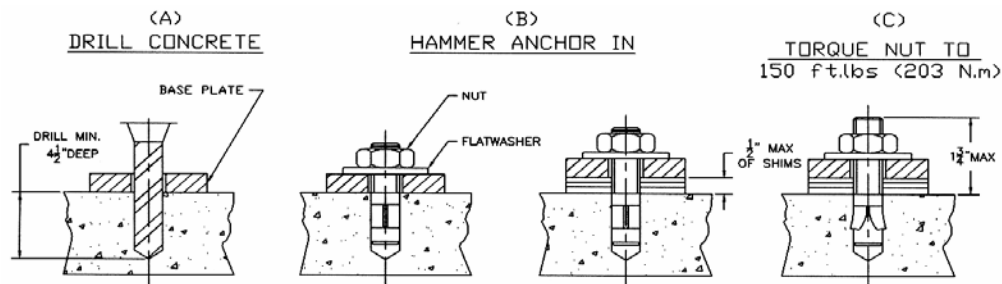

Figure 9 – Anchor Bolts
3. Using a rotary hammer drill with a 3/4" masonry drill bit, drill holes in the floor on the high side column using the tower baseplate as a template. Make sure that the 3/4" masonry drill is in good condition (**Figure 9**).
4. Carefully clean out drilling dust from the anchor holes. Hammer in the anchor bolts (**Figure 9**). Hand tighten all anchor bolts.
6. Torque all anchor bolts to 150 ft-lbs. (203 Nm), continually checking that the column is level as you proceed. If anchor bolts do not tighten to 150 ft-lbs. OR project more than 1 3/4" above the concrete surface (**Figure 9**), the concrete MUST be replaced by an appropriate concrete pad. (Consult Product Manufacturer / Supplier for further details).